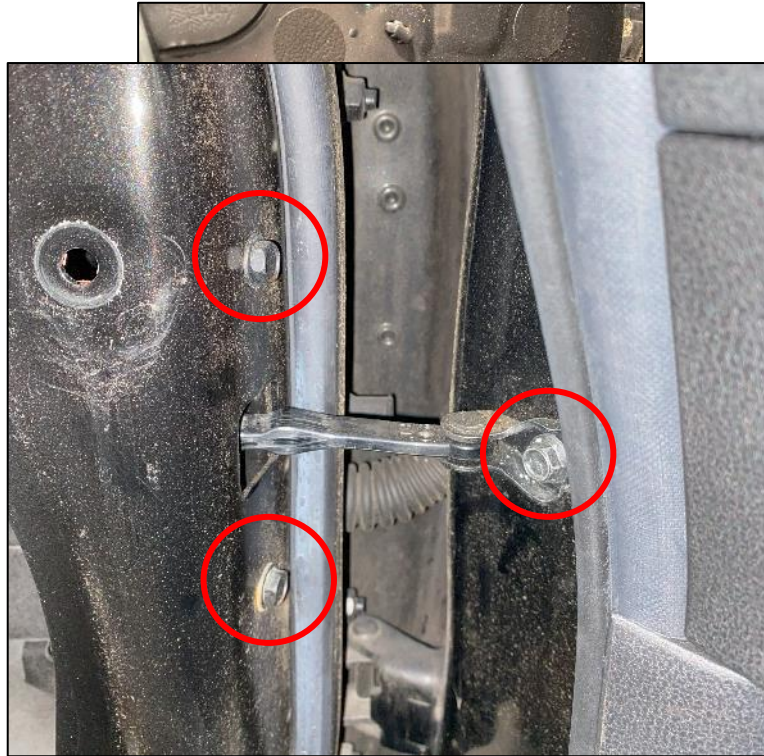

Figure 45
13. Open the Door as wide as you can. Disconnect the (3) three 10mm Bolts that secure the Check Link to the Door and the Body. *Figure 45.*